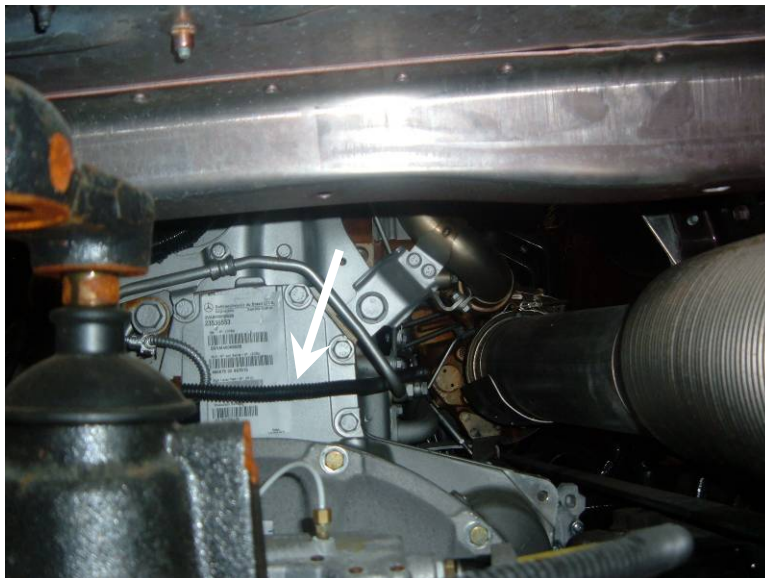

Figure 11 - Cable Routing Rear of Cylinder Head
- f. Route block heater electrical cable around the back of the cylinder head. See Figure 11.